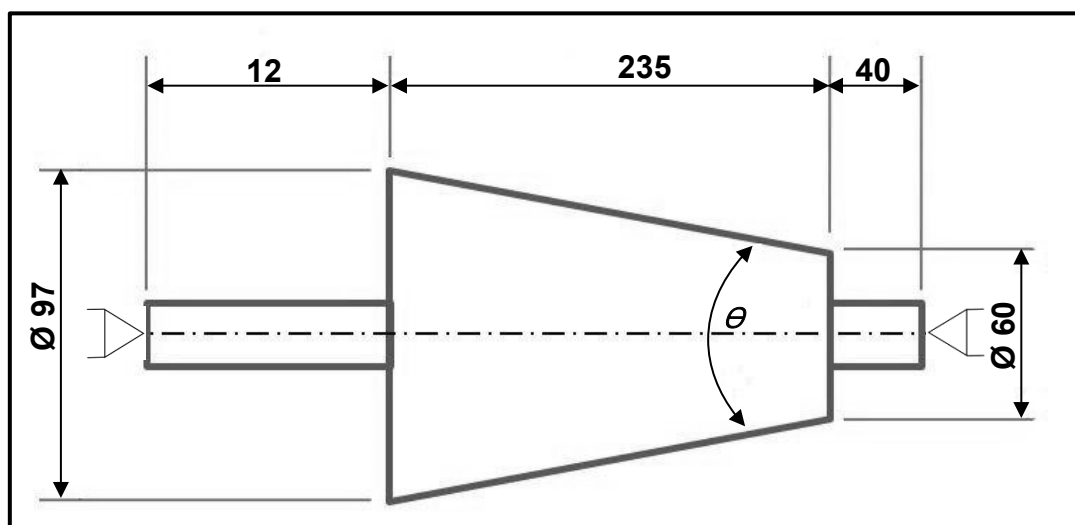

FIGURE 5.4
- 5.4 FIGURE 5.4 below shows a taper with an included angle which should be machined between two centers. (1)